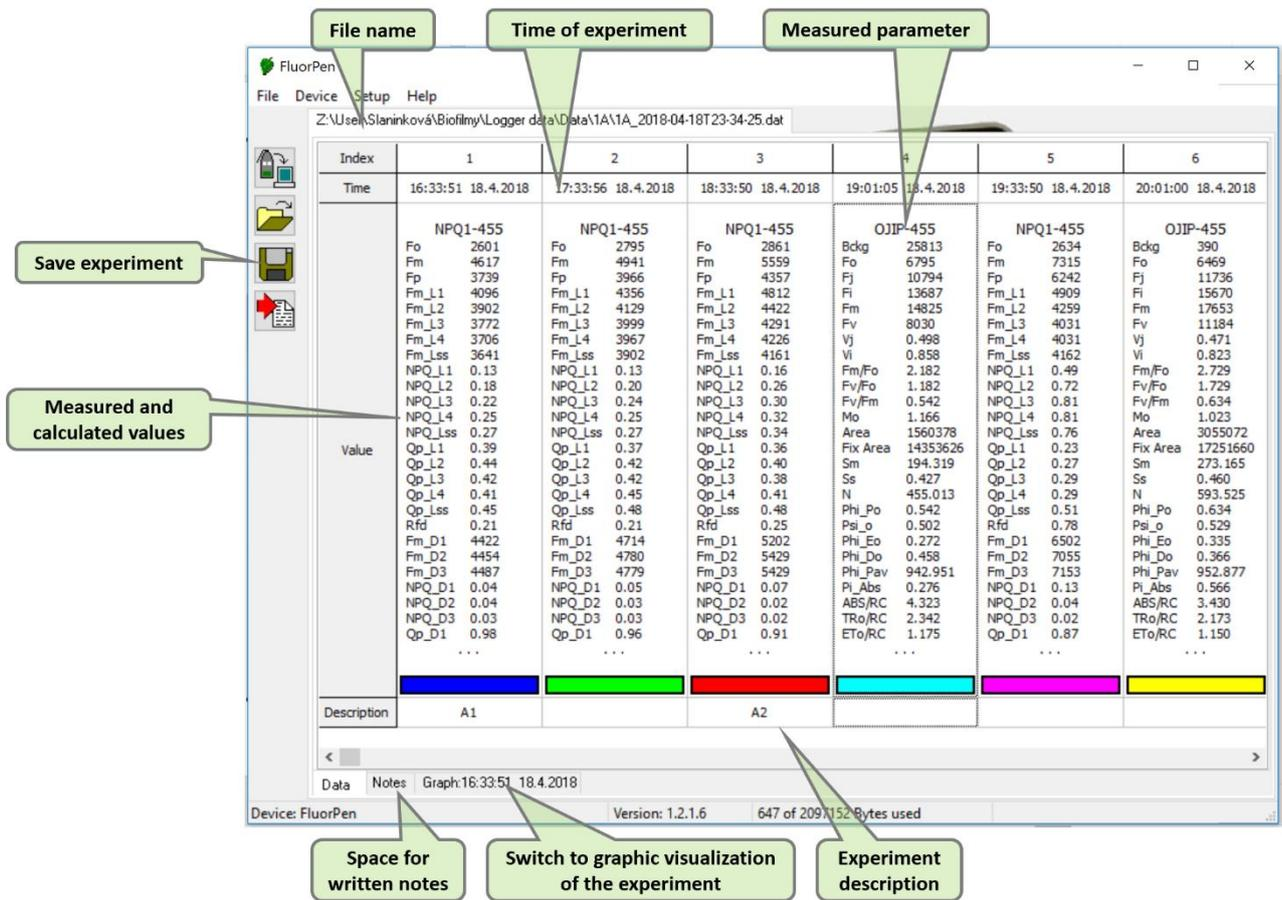

Fig. 21 Example of Data Transfer and Visualization.
1. Once kinetics protocol data (OJIP, NPQ, LC) has been collected by the FluorPen it needs to be downloaded to PC to be visualized. Fig. 21 below shows example of an OJIP and NPQ protocol data.
3. Once download is complete the Data table appears as shown below in Fig 21.